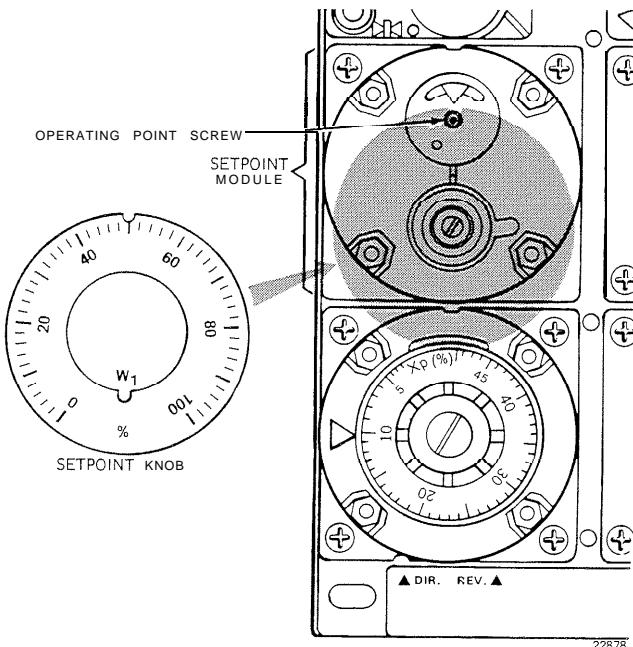

Fig. 6. Operating Point Screw Location.
4. If the BLP is 8 psi (55 kPa), go to Step 5. If not, remove the setpoint knob (Fig. 6) and turn the operating point screw with a 5/64-inch Allen wrench until this value is matched.